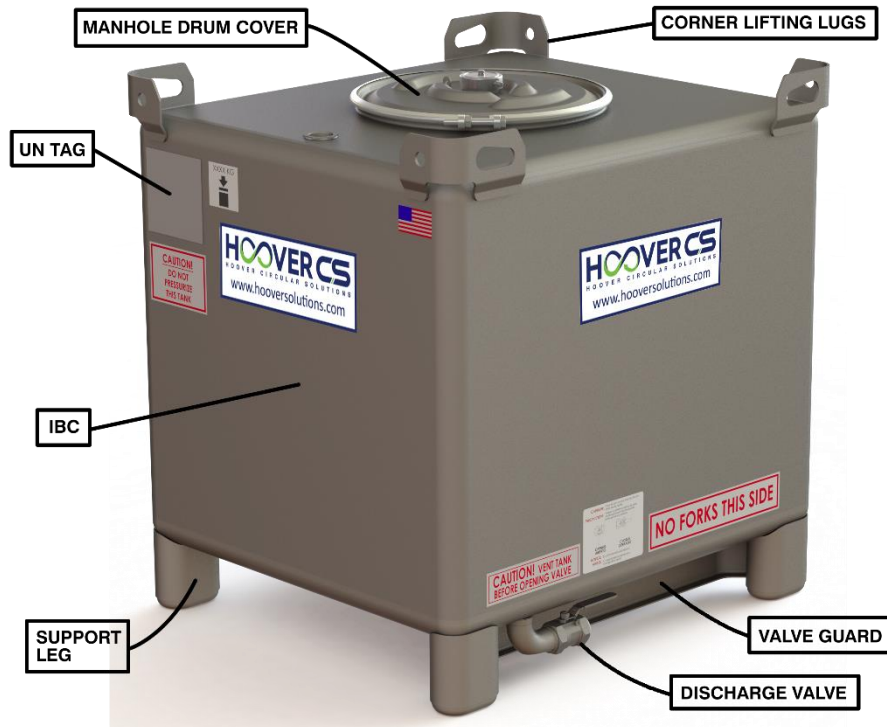

Figure 1
1. See Figures 1 & 2 on page 6 for location of the IBC manhole drum cover and 2" bung plug.
1. See Figures 1 & 2 on page 6 for location of parts described below.